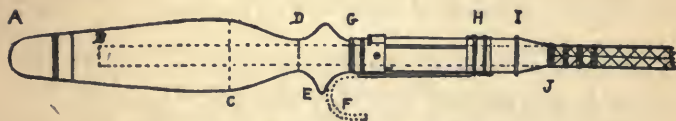

Fig. 8 — Cedar grasp for bait-casting rod
the bait-casting rod. Here the grasp is not removable, and because of the increased strain on the handle of this rod, the butt-joint should extend down inside the grasp to within two inches at most of the butt-cap, this part of the joint first being filed down to a uniform size. In this rod the reelseat is placed above the grasp. A pattern for the handle of cedar is shown in Fig. 8, one piece of wood extending from A to I. G — I represents a German-silver reelseat, slid over and cemented to its cedar-core. This reelseat has a simple but effective locking reel-band (H) and it was obtained from James Heddon's Sons, of Dowagiac, Mich., for one dollar. The